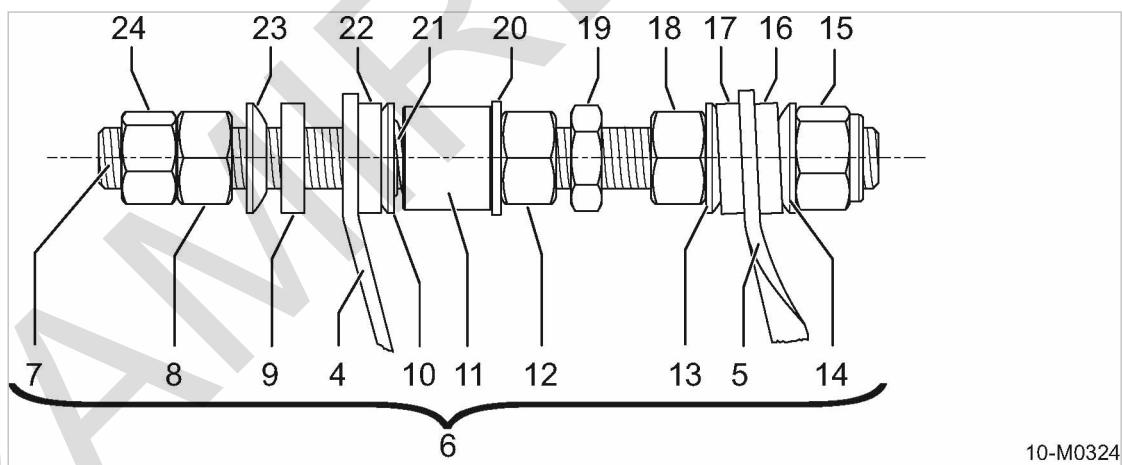

Fig. 81 Generator belt tensioner
See chapter 10.8.6.3; Figure 81.
(see figure 81 for location).
1. Remove the tensioning device (see Fig. 81).
3. Mount the tensioning device (see Fig. 81).